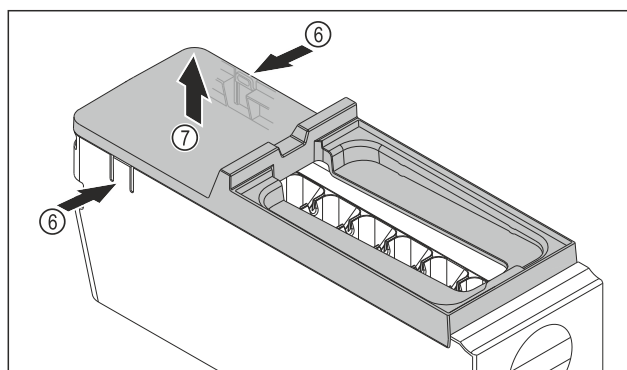

Fig. 144
- Removing the EasyTwist-Ice body cover: Push the tabs Fig. 144 (6) on both sides of the EasyTwist-Ice body with one hand.
- Use the other hand to remove the cover Fig. 144 (7) upwards.